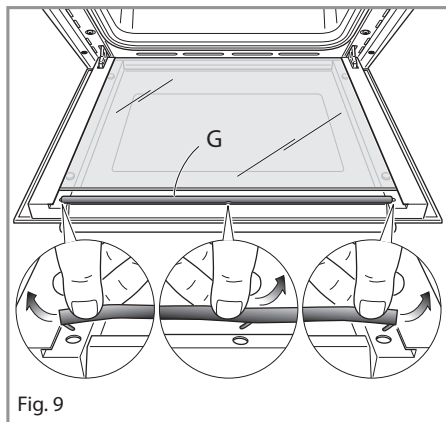

Fig. 9
- **Top oven door only:** Remove the seal **G** by unhooking the no. 3 fixing hooks (fig. 9).